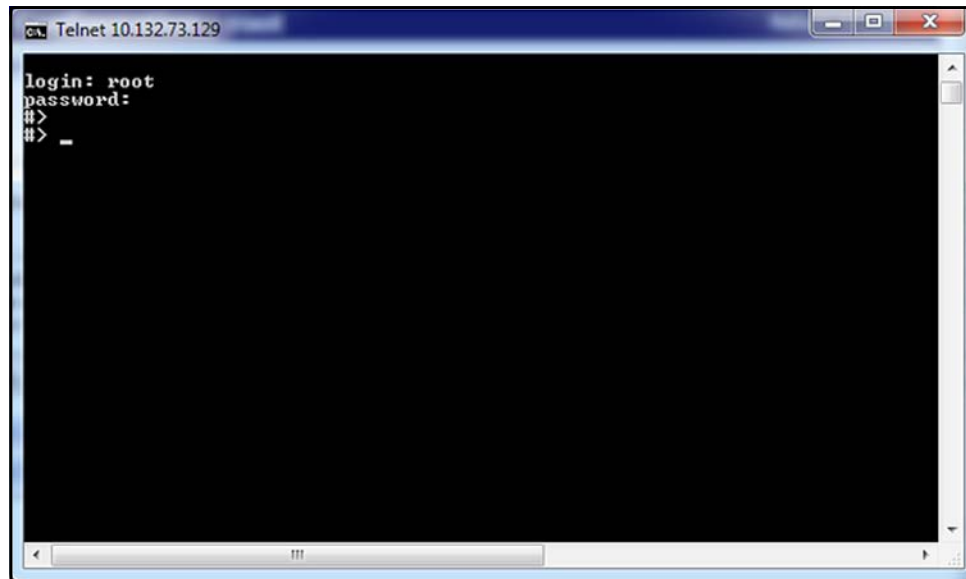

Figure 117: Telnet Login
3. At the module login: prompt, log in using the root account. Your password will not be echoed back. Upon successful login, the #> module prompt is displayed (see Figure 117 below).